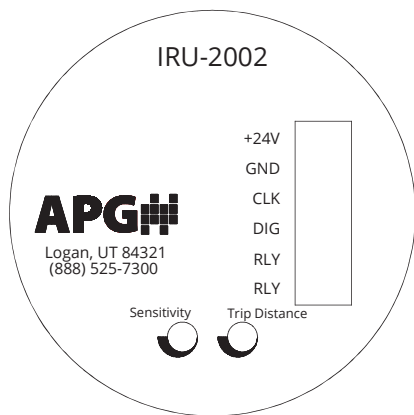
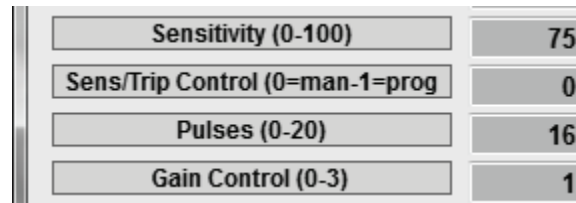

Figure 2.1
Figure 3.3
Potentiometers for setting or adjusting *Trip Distance* (IRU-2002 only) and *Sensitivity* (IRU-2002 and IRU-2003) are located inside the sensor housing along with terminal strips (See Figures 2.1 and 2.2). Both settings can also be controlled via the I2000SWR software (See Figure 3.3).
- For IRU-2002 and IRU-2003 sensors, system wiring must be connected to internal terminal strups prior to physical installation. (See Figures 2.1 and 2.2)
For IRU-2002 sensors, *Sensitivity/Trip Point Control* is used to select between potentiometer or software control of *Sensitivity* and *Relay Trip Point*. (See Figure 2.1)
4 mA Set Point sets the distance at which the output is 4 mA. This distance is measured from the Zero Point. See Figures 3.3 and 3.4.